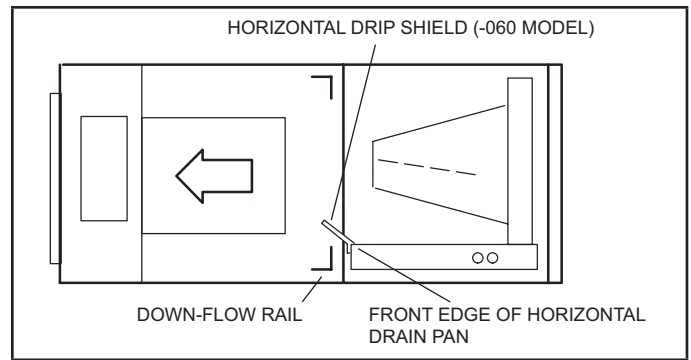

FIGURE 4. Left-Hand Discharge Configuration
- 4 - Remove screws from top cap. Remove horizontal drip shield screw located in the center of the back coil end seal as illustrated in figure 4.
- 7 - Rotate top cap 180° front-to-back and align with unused screw holes. Holes must align with front and back coil end plates. The top cap has a 45° bend on one side and a 90° bend on the other. The 90° bend must be on the same side as the horizontal drain pan as illustrated in Figure 4.
- 8 - From the upflow position, flip cabinet 90° to the left and set into place. Replace blower assembly. Secure coil in place by bending down the tab on the cabinet support rail as illustrated in figures 4 and 5.
- 9 - Install the horizontal shield (-060 model) on the front edge of the horizontal drain pan as illustrated in figures 4 and 5.